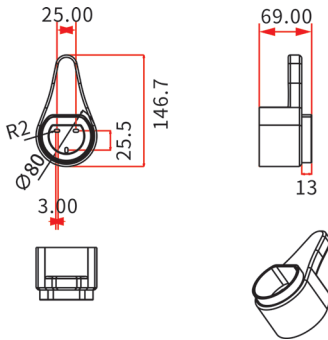

Fig. 6: Installation outline dimension drawing of gun rack
3) According to the installation outline dimension drawing of the gun rack (as shown in Fig. 6), use an electric drill to drill 3* round holes with a diameter of 6 mm and a depth of 40 mm on the wall;